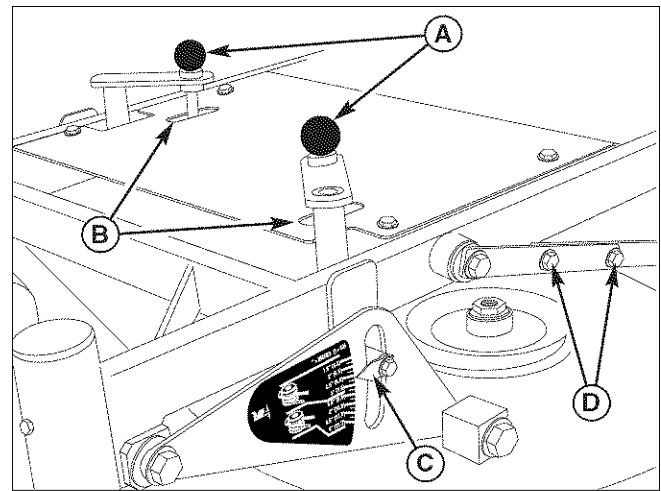

Figure 32. Remove the Cutter Deck Guard
2. Pull the cutting height adjustment handle (A, Figure 32) up and out of the handle lock position (B) and crank the handle CLOCKWISE and adjust the deck to the 3" (7,6 cm) position.
5. Loosen the deck leveling hardware (D, Figure 32) on both sides of the machine.